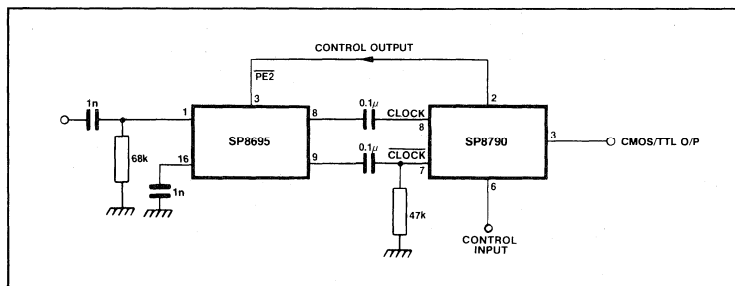

Fig. 5 Typical interfacing to suppress self oscillation with no input signal
5. When used as a controller the circuit will self-oscillate. This can be prevented by using one of the arrangements as shown in Fig. 5.
6. The control output, which includes an internal 16k pull-down resistor is ECL compatible and interfaced directly into, for example, SP8695. See Fig. 5.